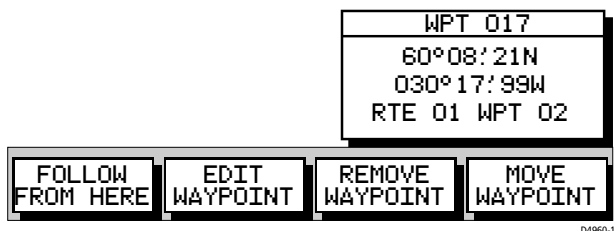

Figure 3-36: Waypoint Data Box and Soft Keys
- To display information about a route waypoint, move the cursor over the waypoint until the letters WPT appear. The Waypoint Data Box is displayed with the Follow Route soft keys as shown in *Figure 3-36*.